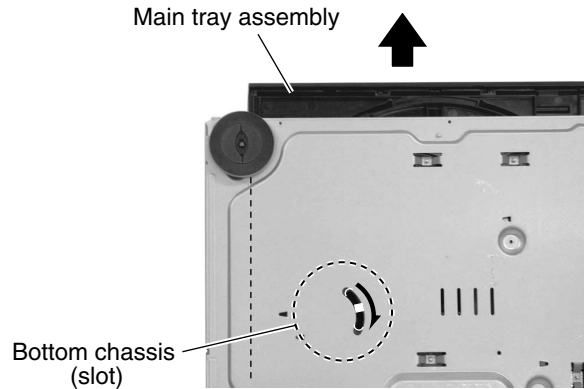

Fig.4
(See Fig.4 to 6)**
1. Turn over the body and insert a screwdriver into the slot of the bottom chassis, then move it in the direction of the arrow in Fig.4. The main tray assembly will move forward.